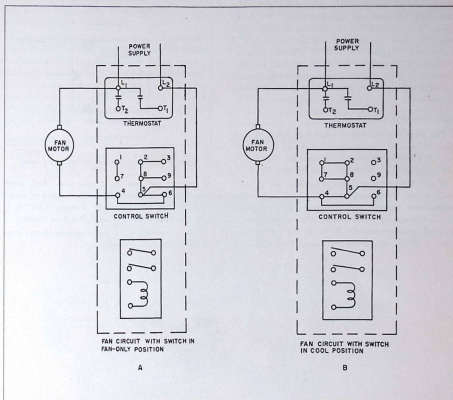

Figure 17. Fan Circuits
1. The 3-pole, double-throw, toggle switch has three positions: COOL, OFF, and FAN ONLY. Its action is illustrated in figure 16, where it is shown in the FAN ONLY position. The switch has wire jumpers that connect certain of the switch terminals as shown in figure 17. When the switch is positioned as shown at A, only the fan motor operates. When the other end of the switch blades are pushed into contact with terminals 1, 7, and 4, as at B, this closes the circuits through the fan motor and to both compressor motor control circuits. If the room tem-
The air-circulating fan motor is connected into the circuit as shown in figure 17. This diagram shows that the fan motor will run at all times when the control switch is in either the COOL or the FAN ONLY position, regardless of thermostat contact position.